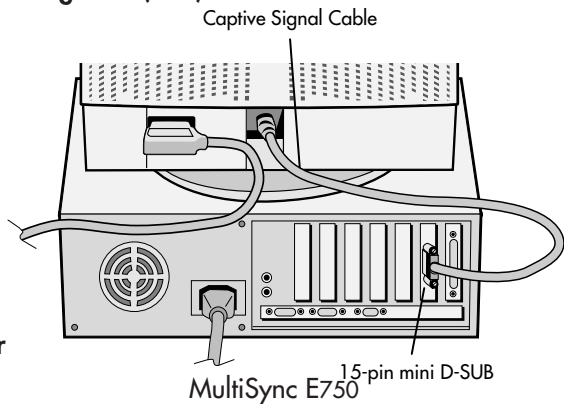
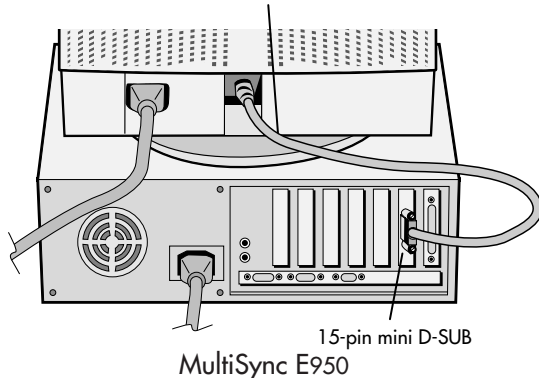

Figure A.1
Figure A.2
3. For the PC: Connect the 15-pin mini D-SUB of the captive signal cable to the connector of the display card in your system (**Figure A.1 for MultiSync E750™ and Figure A.2 for MultiSync E950™**). Tighten all screws.